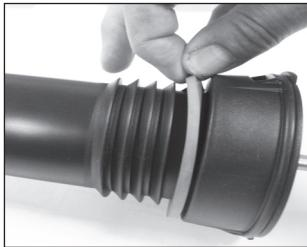

Figure 1
1. Inspect gasket. If worn or damaged, remove and replace. (**See Figure 1**)